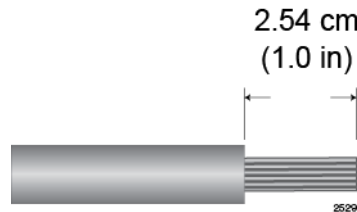

Figure 141. Stripping Solid or Stranded DC Power Wires
1. Prepare adequate lengths of two solid or stranded 8 AWG DC power wires by stripping them as shown in Figure 141.